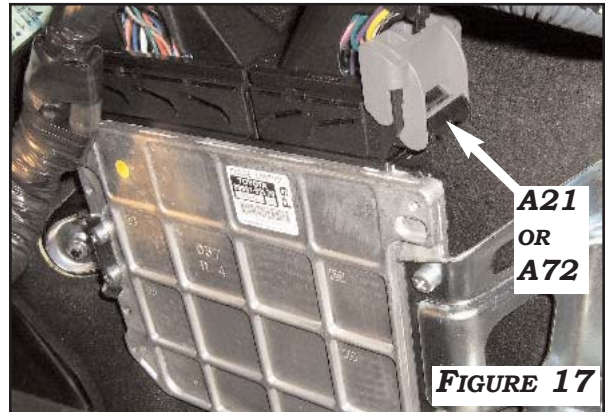
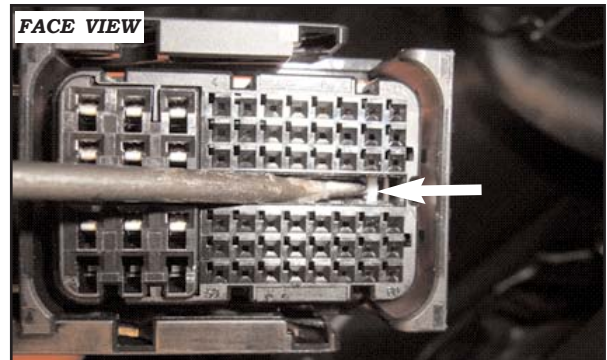

FIGURE 17
FIGURE 18
2. LOCATE BLACK ECM CONNECTOR **A21** OR (**A72 12 YARIS HATCH BACK**) IN THE ENGINE COMPARTMENT ON THE PASSENGER SIDE FIREWALL. **FIGURE 17** REMOVE CONNECTOR AND WIRE COVER. **BE SURE TO PULL OUT TERMINAL RETAINER AT THE CENTER OF CONNECTOR WITH PRECISION TOOL.** **FIGURE 18** LOCATE BLACK CRUISE ECM HARNESS IN SACK PART. INSERT TERMINAL WITH PURPLE SEAL INTO PIN **40** OR PIN **60** FOR **12 YARIS HB**(CRUISE CIRCUIT) OF CONNECTOR **A21** OR **A72**. IF BLUE OR GREEN WIRE IS PRESENT, **CUT OFF TERMINAL END WITH PURPLE SEAL.** CONNECT BLACK CRUISE ECM WIRE TO **BLUE WIRE PIN 40** OR **GREEN WIRE IN PIN 60**(CRUISE CIRCUIT) OF CONNECTOR **A21** OR **A72**. **FIGURES 19-20**